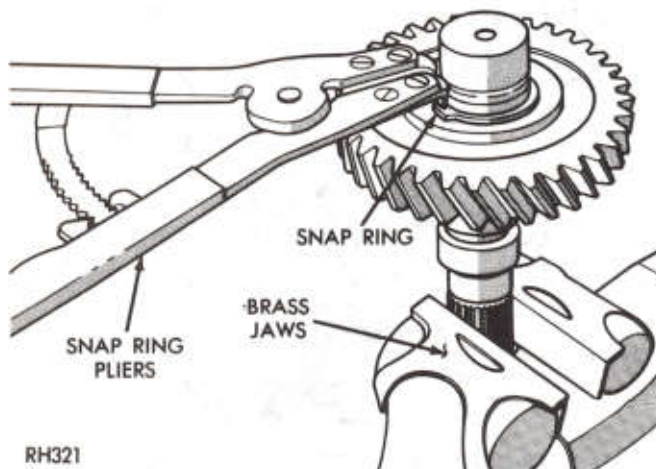

Fig. 5—Front Output Shaft Snap Ring
- (8) Remove snap ring (Fig. 5).
- (9) Remove thrust washer and thrust washer pin. Remove gear and needle bearings (32 per row) and spacer.
- (10) Remove cup plugs on top of case using a 1/4 inch punch.
- (11) Position both shift rails in neutral.